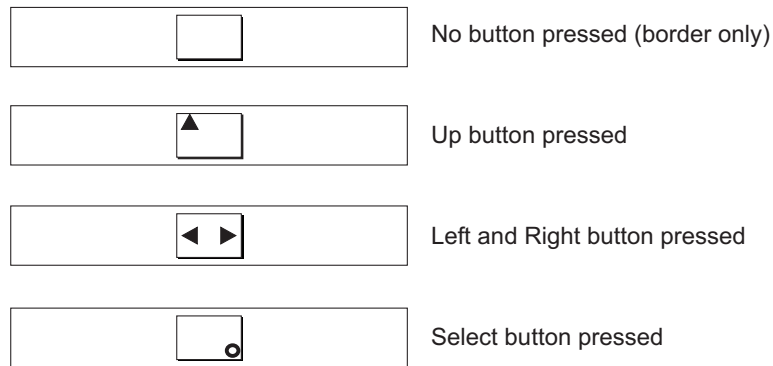

Figure 42. Front panel display when push buttons are pressed
3. Press the Up, Down, Left, and Right buttons to verify that they are working. Figure 42 shows four examples of what the front panel should display when you press the buttons. When you have finished testing the buttons, press and hold the Select button for five seconds in order to exit the test.